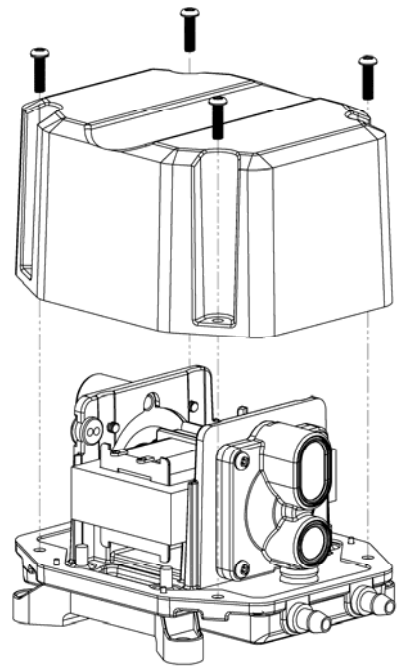

Figure 1
- A. Loosen the four screws around the aluminum upper cover, and take the cover off. (As shown in Figure 1)